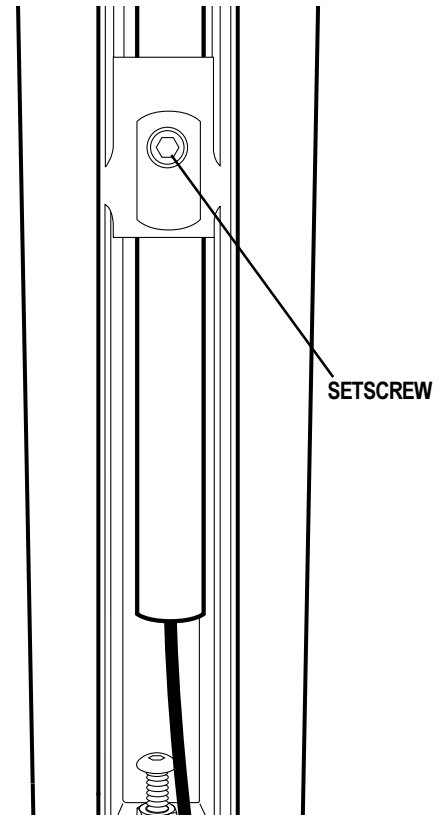

Figure 14. Underside of Armrest
The controller can easily slide out away from the armrest, or in toward the armrest. You can also move the controller to the other armrest. See figure 14.
3. Use a hex key to loosen the setscrew under the armrest. See figure 14.